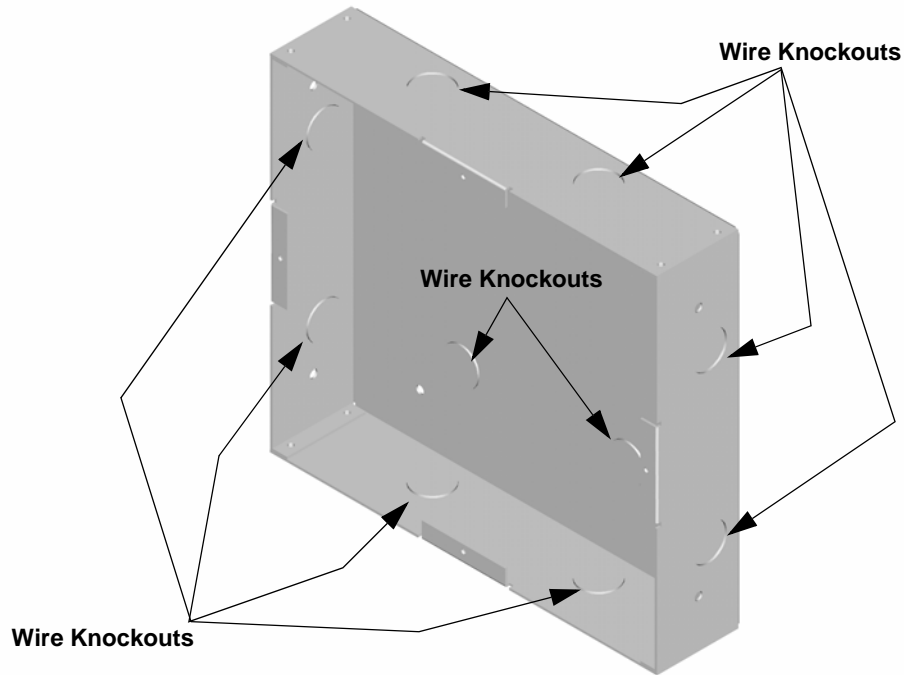

Figure 4-24 Back Box Knockout Locations
2. Remove knockout holes as needed for wires. See Figure 4-24 for backbox knockout locations.